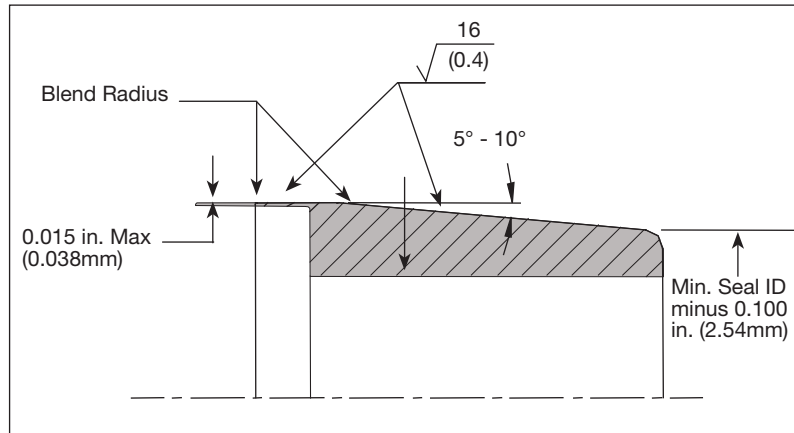

Figure 2-18. Expanding mandrel
3. Install the expanding mandrel onto the piston (Figure 2-18).